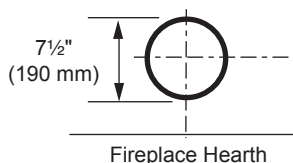

Figure 15 -
1. Locate and cut the vent opening in the wall. For combustible walls first frame in opening. *Figure 15*
Combustible Walls: Cut a 11½"H x 9½" W (292 x 241 mm) hole through the exterior wall and frame as shown. *Figure 15*
3. Attach vent pipe assembly to the fireplace. Set fireplace in front of its permanent location to insure minimum clearances. Mark the wall for a 11½"H x 9½"W (292 x 241 mm) rectangle hole (for noncombustible material such as masonry block or concrete, a 7½" [190 mm] diameter hole is acceptable). *Figure 15*. The center of the hole should line up with the center line of the horizontal rigid vent pipe end. Be sure to allow for minimum rise. Cut a 11½" x 9½" (292 X 241 mm) rectangle hole through combustible exterior wall (7½" [190 mm] diameter hole if noncombustible). Frame as necessary. Allow 1/4" minimum rise per foot. *Figure 15*
1. Establish vent hole through the wall. *Page 17, Figure 15*